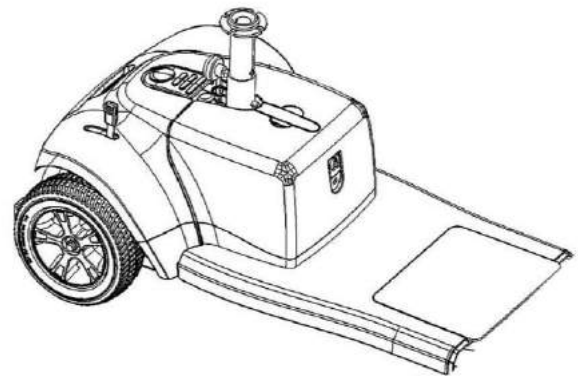

Fig 6.3.2
- Make sure the front and rear sections are securely and correctly connected. (See Fig 6.3.2)